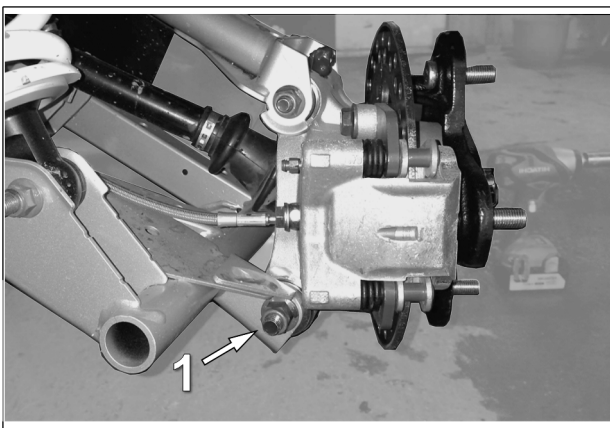

Fig. 6
5. Remove bolt (1) securing the lower suspension arm to the wheel hub. A new M12-1.75x180mm bolt provided in the installation kit will be used to assemble the anti-rotation anchor bracket, lower suspension arm and wheel hub. See Fig. 6